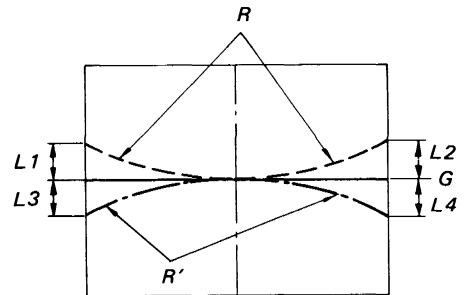

Fig. 3-26
- (1) Set the TEST/NORMAL switch to TEST.
- (2) Rotate the red deflection yoke so that the red horizontal center line coincide with the green horizontal center line or the left and right spaces are equal as shown in Fig. 3-26.